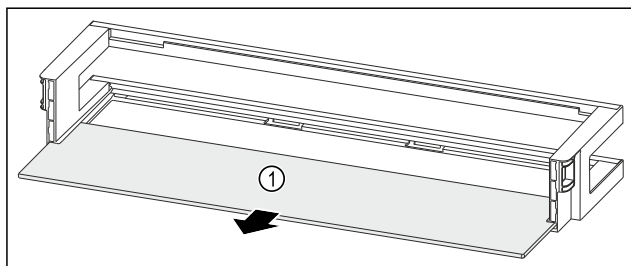

Fig. 129 Door rack with shelf
- Remove the shelf *Fig. 129 (1)*.